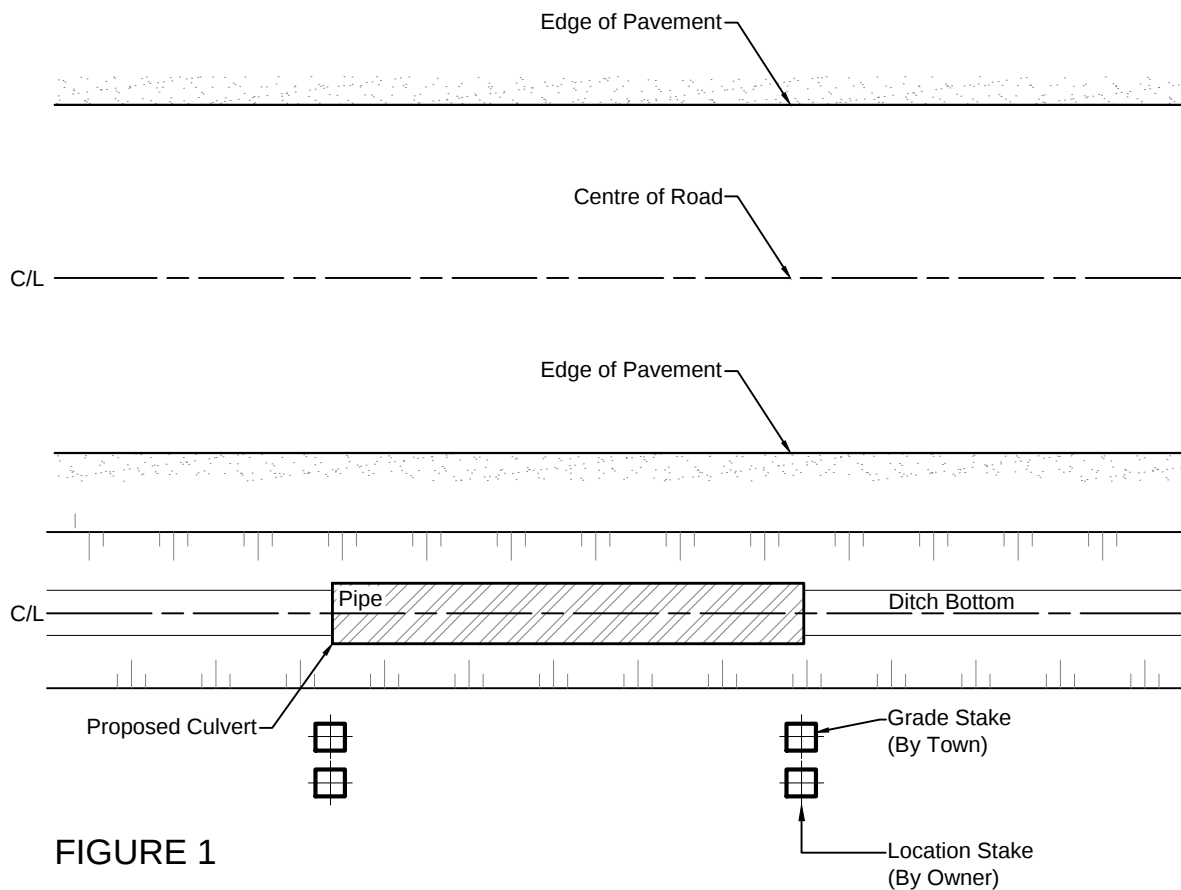

FIGURE 1
- 1 Clearly mark proposed driveway with location stakes (See Fig. 1)